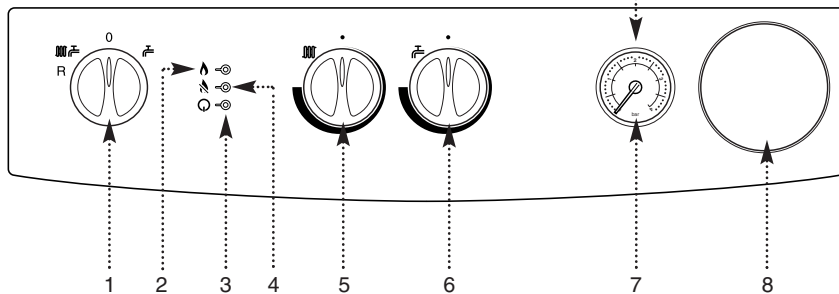

Fig. 4
3. In either position the green power on neon (Ⓞ) will illuminate (Fig. 4).
7. The orange burner on neon (🔥) will illuminate when the boiler is operating and the main burner is on (Fig. 4).